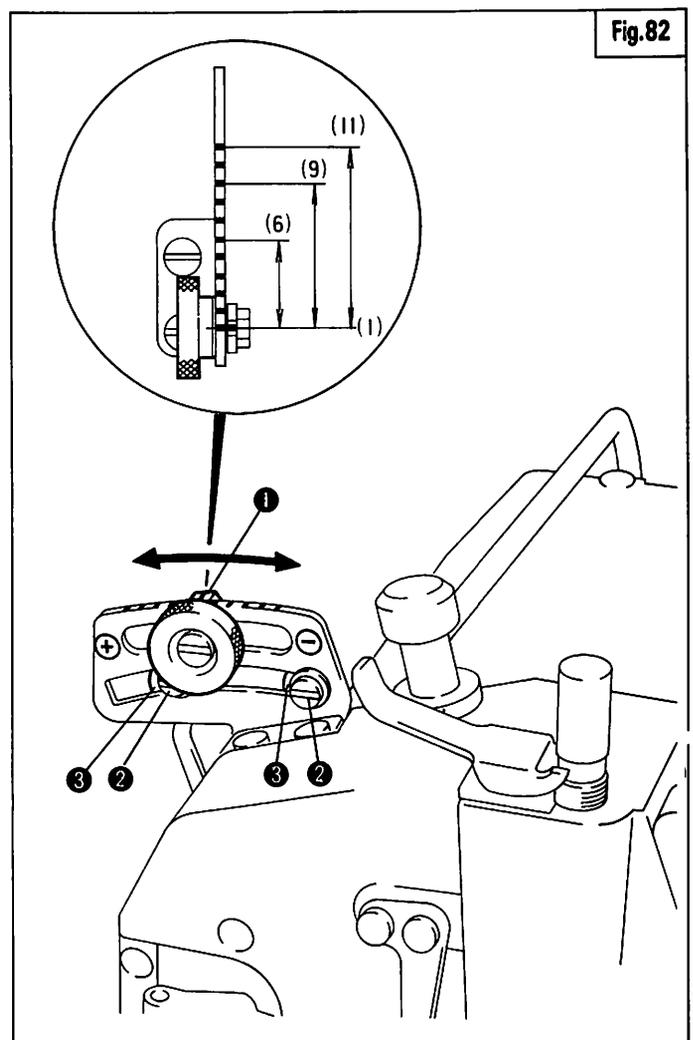

Fig.82
**TOP FEED STROKE AND DIFF. FEED RATIO (Fig.82)**